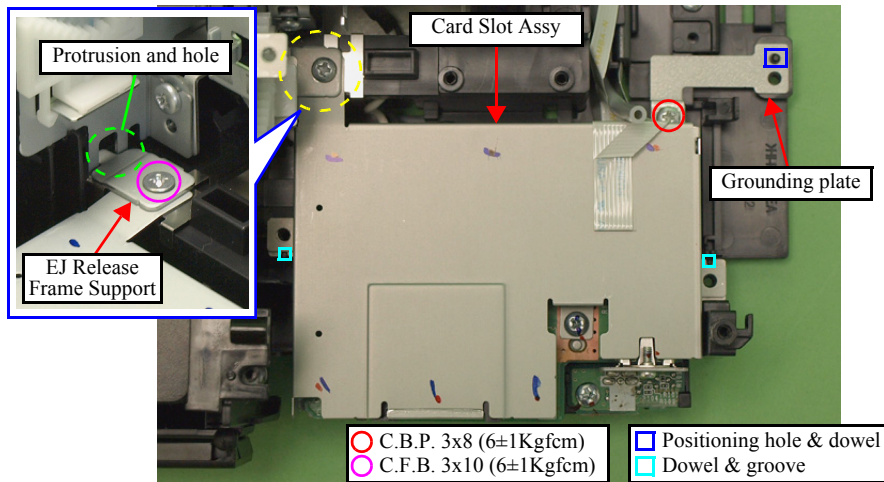

Figure 4-50. Removing the Card Slot Assy (1)
- Align the grooves (x2) of the Card Slot Assy with the dowels (x2) of the Base Frame. (See Fig. 4-50.)
- When attaching the grounding plate, install it over the Card Slot Assy, and align the positioning hole of the grounding plate with the dowel of the Base Frame, and tighten them together with the screw. (See Fig. 4-50.)
- When attaching the EJ Release Frame Support, insert the protrusion of the EJ Release Frame Support to the hole of the Main Frame, and then tighten them with the screw. (See Fig. 4-50.)